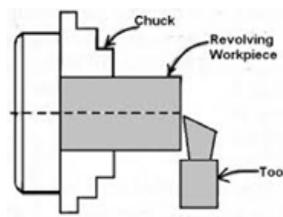

Figure Turn-15: adjust cutter at the middle of face
8. As in figure Turn-15, adjust the height of cutter to be in the middle of raw material face to get a right facing process.